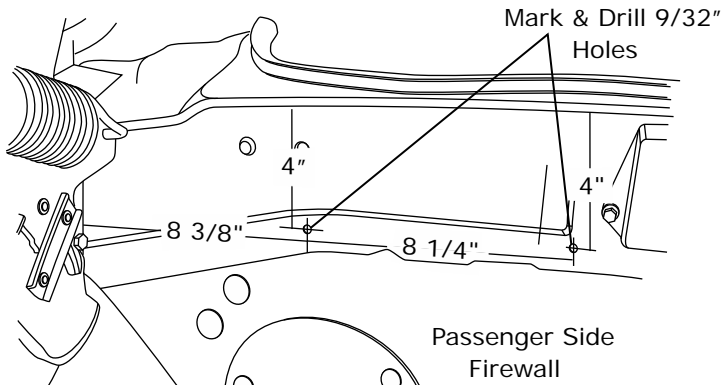

Figure 7b
2. Mark and drill (2) 9/32" holes for driver/passenger side evaporator rear mounting bracket in firewall (See Figure 7b, Page 10).